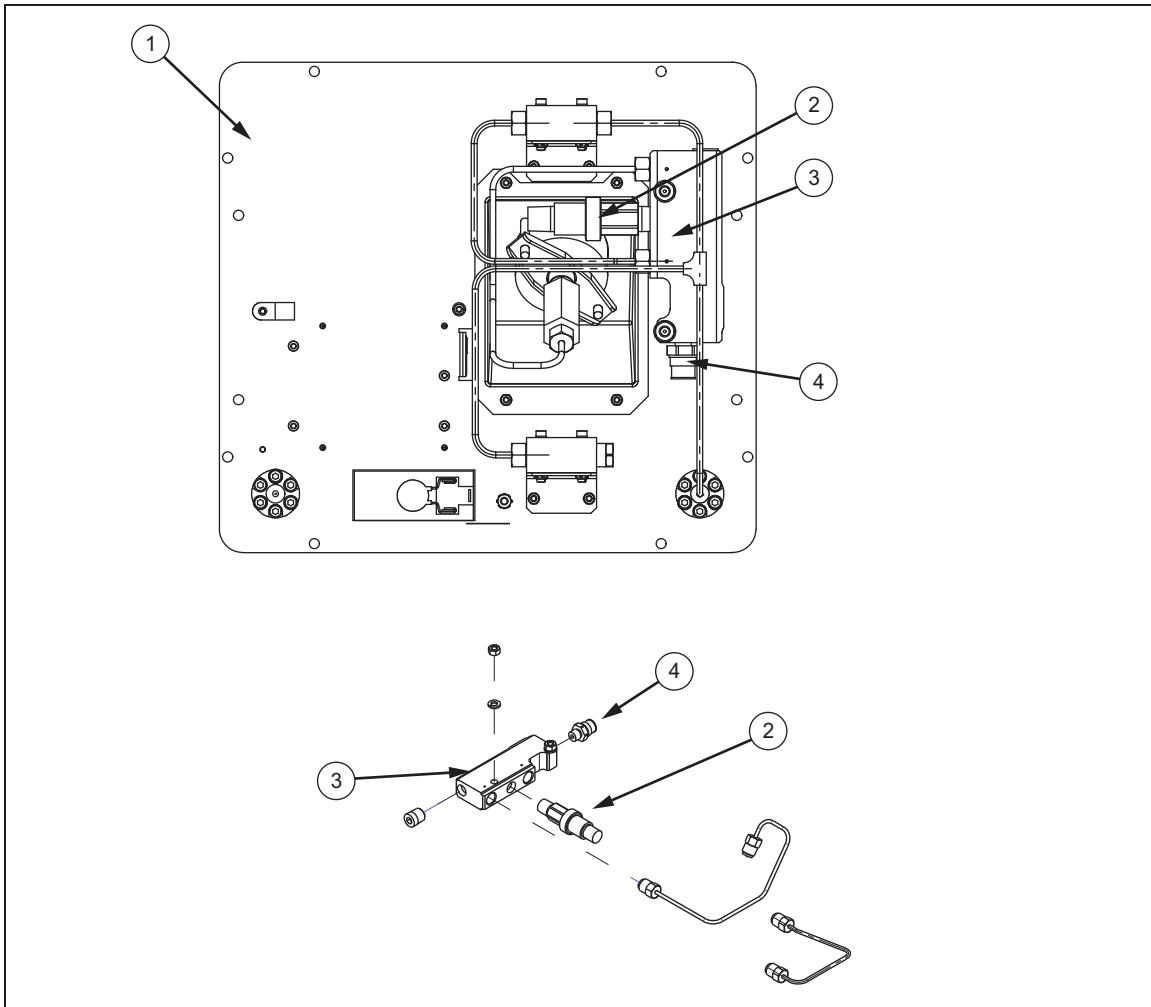

Figure 5-15. Pressure Transducer Replacement
Use the following instructions and Figure 5-15 to replace the electronic pressure sensor (④).
2. Put the control panel (①) on a flat work surface upside down, using support blocks to keep it raised above the surface.
3. Disconnect the pressure sensor (④) wire ribbon connector from the pca.
4. Remove the pressure sensor (④) from the manifold (③).
5. Install the new pressure sensor (④) in the manifold (③), wrapping the NPT threads with PTFE tape.
6. Connect the wires to the pressure sensor (④) at the pca.
Use the following instructions and Figure 5-15 to replace the overpressure relief valve (②).
3. Remove the pressure relief valve (②) from the manifold (③).
4. Put the new pressure relief valve (②) on the manifold (③). Use PTFE tape on the NPT threads. The arrow indicates the direction of relief. The arrow should point away from the manifold.